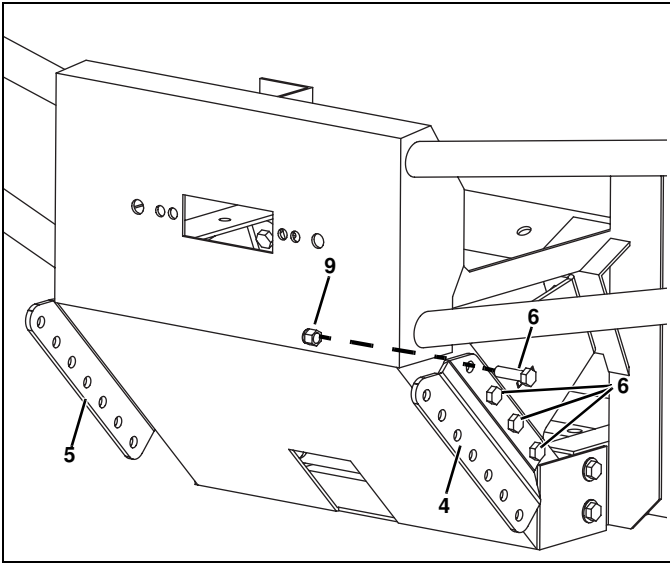

Figure 7
12. Install the Driver Side Mounting Bracket (#4) and Passenger Side Mounting Bracket (#5) on their respective sides with (8) 3/8"-16 x 1-1/4" Cap Screws (#6) and (8) 3/8"-16 Nylock Nuts (#9). Four on each side. (See Figure 7.)